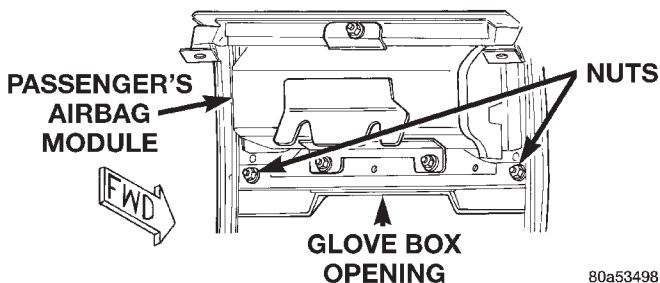

Fig. 19 Instrument Panel Grab Handle Remove/Install
(1) Disconnect and isolate the battery negative cable.
(2) Remove the glove box from the instrument panel. Refer to **Glove Box** in Removal and Installation section of this group for the procedures.
(3) Reach through and above the glove box opening to access and remove the two nuts that secure the stud on each end of the grab handle to the instrument panel (Fig. 19). Discard the used grab handle mounting nuts.